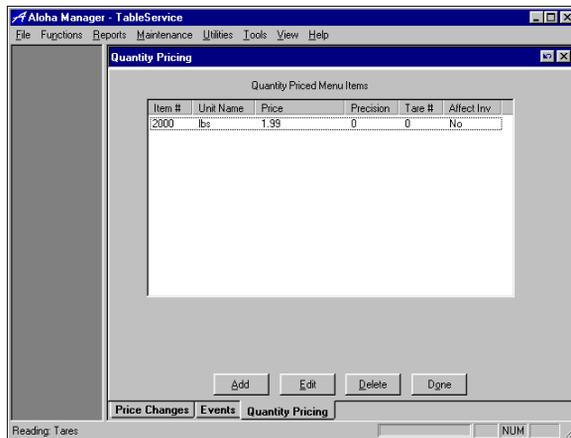

Figure 3-4 Quantity Item Pricing Function Tab
2. Select **Maintenance > Menu > Special Pricing > Quantity Item Pricing**. The Quantity Item Pricing function tab appears, as shown in Figure 3-4: